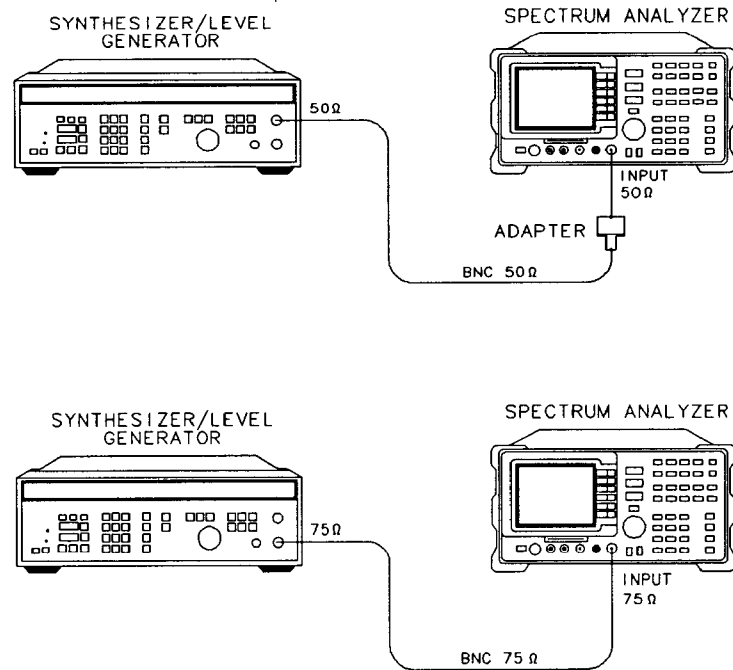

Figure 2-13. Cal Attenuator Error Correction Setup
3. Connect the 50 Ω output of the HP 3335A to the analyzer INPUT 50 Ω . See Figure 2-13.
(*Option 001:* Perform this procedure using the 75 Ω output of the HP 3335A and a 75 Ω BNC cable from HP 3335A to the analyzer INPUT 75 Ω .) See Figure 2-13.